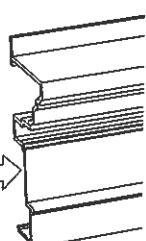

Figure 4
5. Insert the lip of the End Cap into Mantel and hold in place (Figure 4). Allow adhesive to set for minimum of 20 minutes before installing to wall.